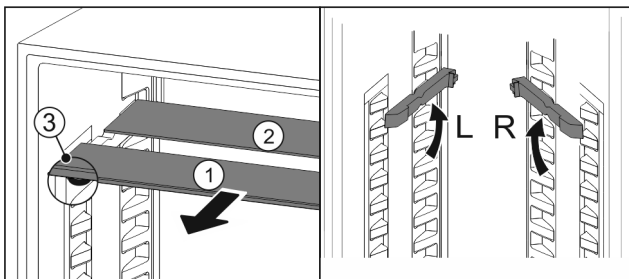

Fig. 69
- ▶ Pull the glass panels out Fig. 69 (1) from the front, one at a time.
- ▷ The glass panel Fig. 69 (1) and trim strip are at the front.
- ▷ The stops Fig. 69 (3) point down.